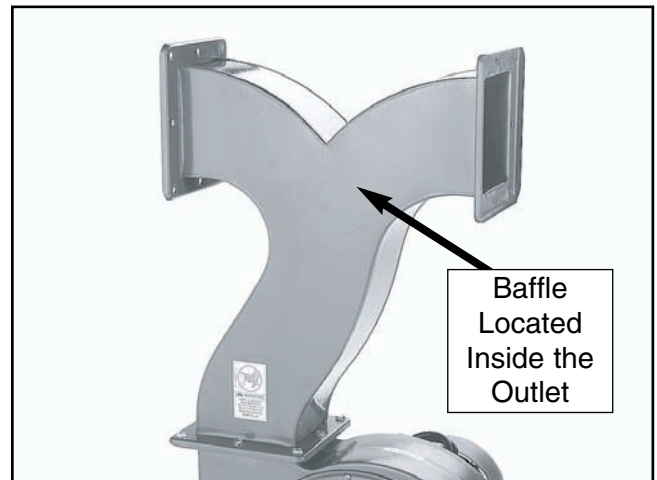

Figure 26. Baffle adjustment piece.
3. Reach inside the metal intake and move the baffle (**Figure 26**) toward you. Note—*The manifold flow adjustment piece is solid and needs to be bent to allow for adjustment towards the opening of the bag that is collecting the most dust to equalize the bag collection.*